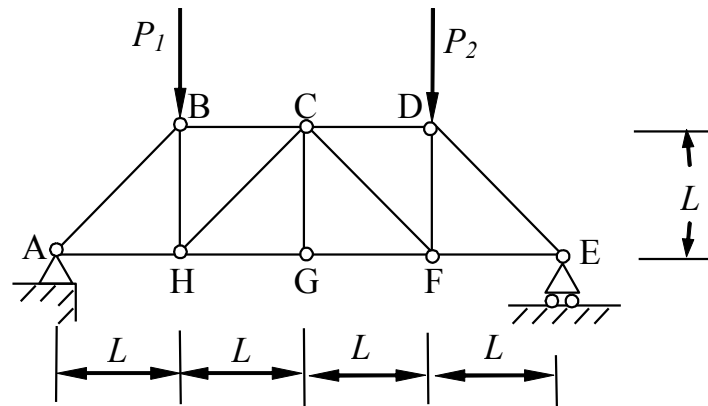

Fig. 6
* 11. The members of the truss shown in Fig. 6 have the same cross-sectional area A and Modulus of Elasticity E .